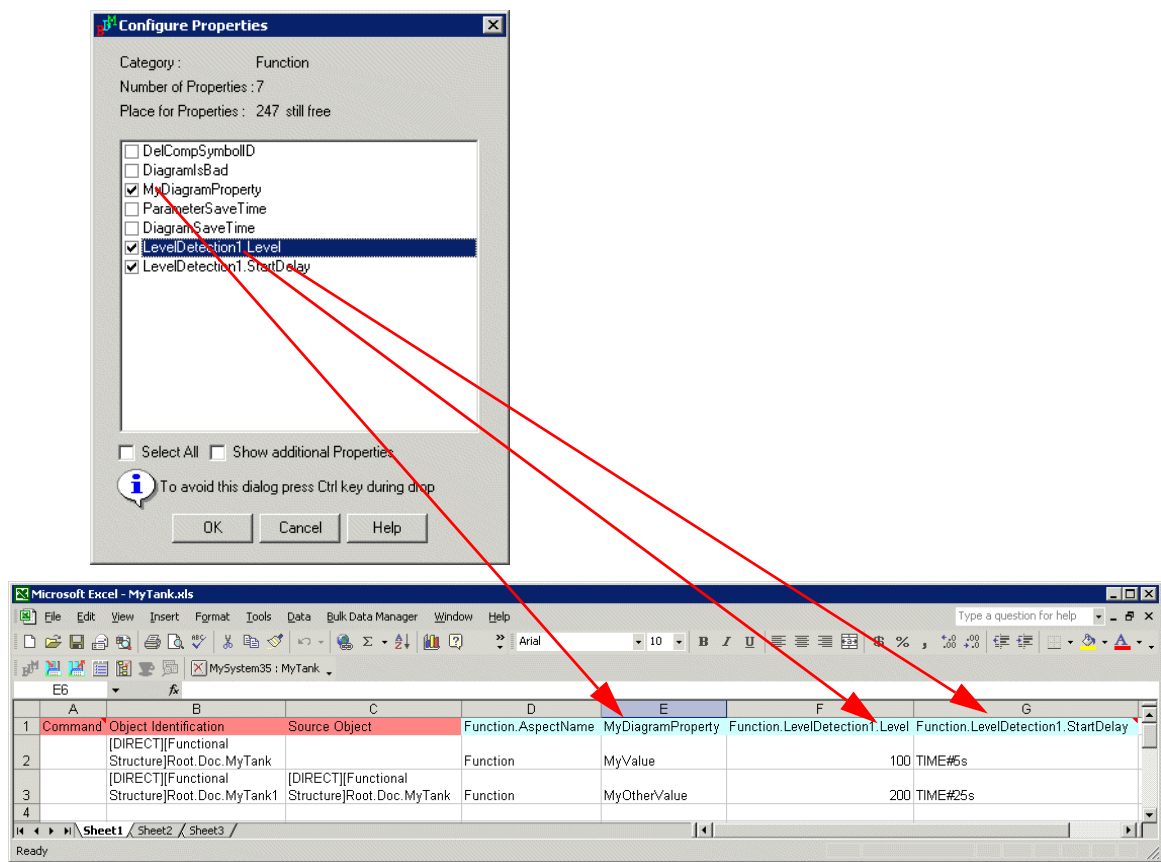

Figure 136. Bulk Copy Diagram(s) with Properties Published via Parent Diagram
4. BDM displays the Configure Properties dialog. As the **LevelDetection1** parameter **Level** and **StartDelay** were marked as **Publish via Parent Diagram**, they are listed as diagram properties **LevelDetection1.Level** and **LevelDetection1.StartDelay**, see Figure 136. Check them in order to modify them while copying diagram(s). They get displayed in bulk data sheet row 1.